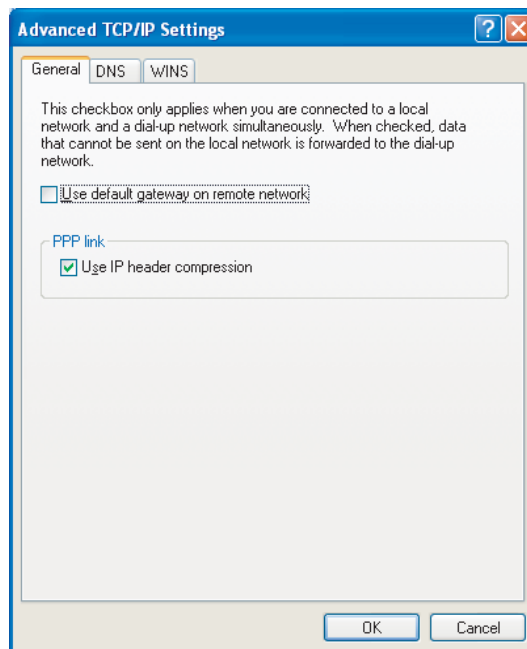

Figure 3.12: Windows XP Advanced TCP/IP Settings
- 15 Press the *Advanced* button and configure the settings as shown in Figure 3.12 .